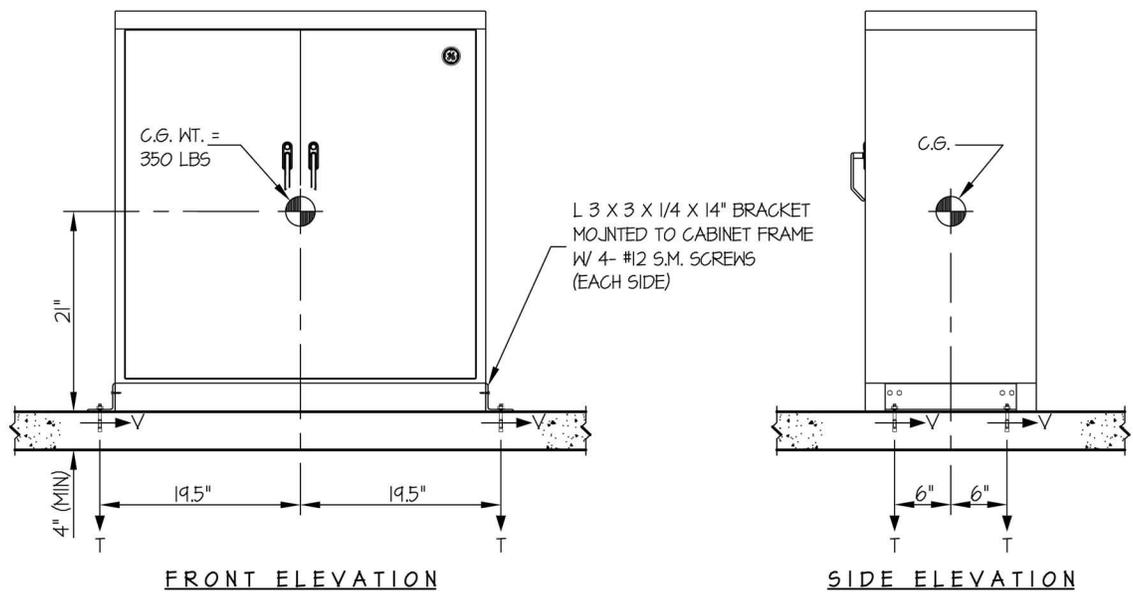

Figure 8-16 Storage Cabinet
- Storage Cabinet: Figure 8-16